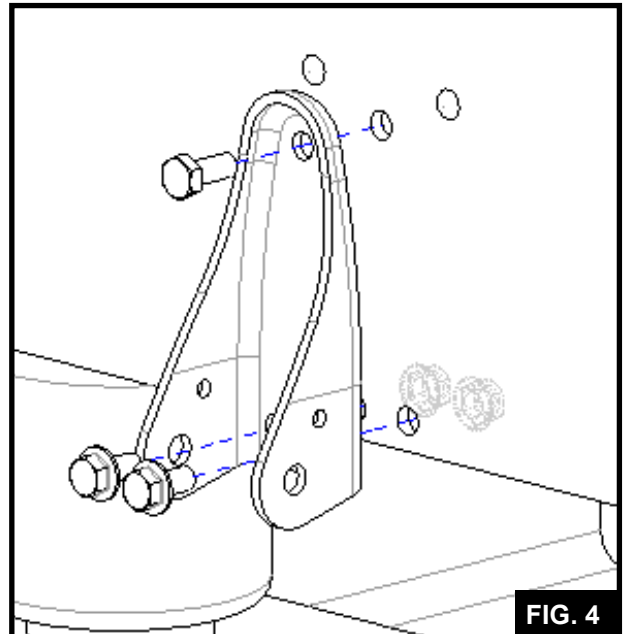

FIG. 4
Remove the (3) bolts on the upper shock mount. Discard the bracket but retain the bolts as they will be reused for the new shock mount (**FIG.4**).